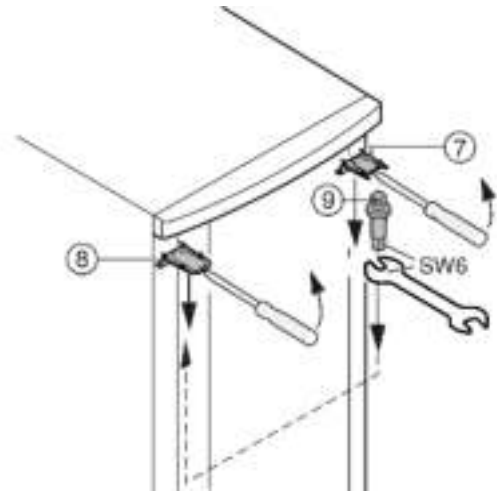

Fig. 6
- ▶ At the top, use a screwdriver to unclip cover *Fig. 6 (7)* and cover *Fig. 6 (8)* at the front, and remove by pulling out and down.
- ▶ Unscrew the bearing pin *Fig. 6 (9)* and screw it firmly into place on the opposite side (**with 4 Nm**).
- ▶ Refit the cover *Fig. 6 (7)* on the side of the bearing pin: insert at the back, snap in at the front.
- ▶ Fit the cover *Fig. 6 (8)* on the opposite side: insert at the back, snap in at the front.
- ▶ Hang the door on the bearing pin *Fig. 6 (9)* at the top.